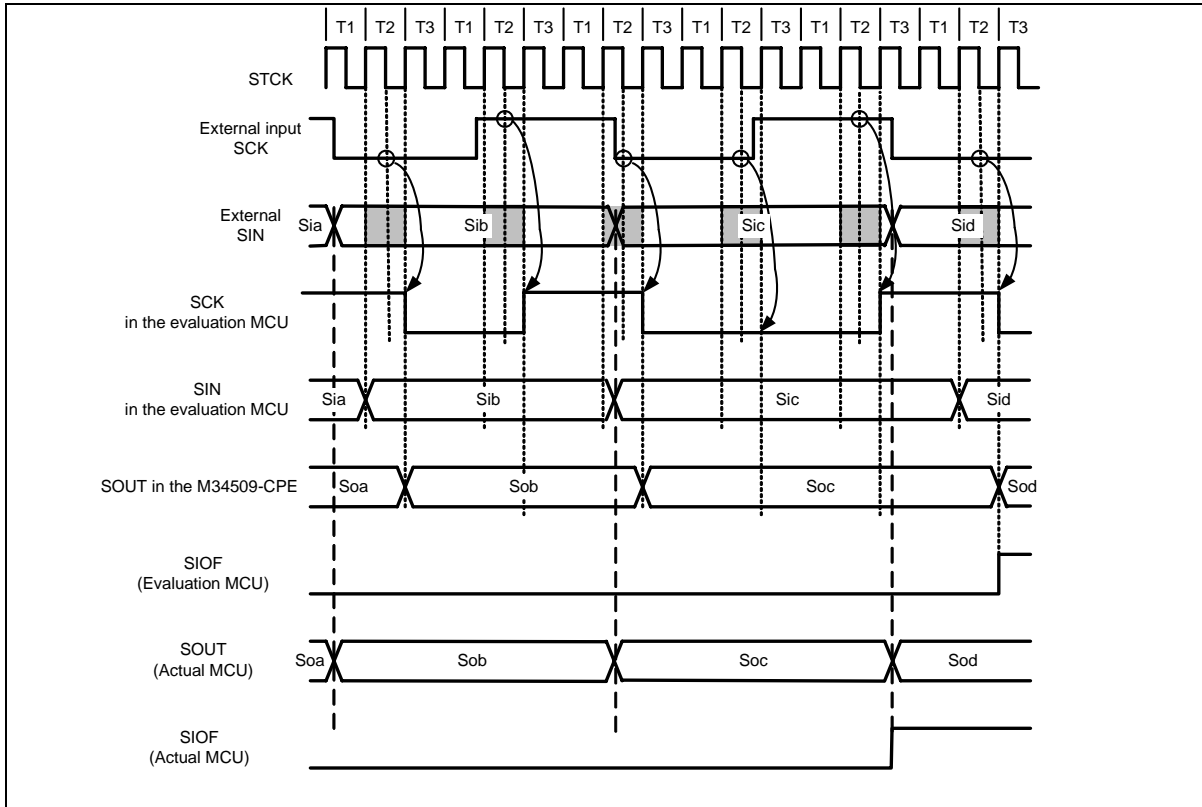

Figure 4.4 Timing of the serial input/output
- In this product, when the external clock (SCK) is used for the serial interface synchronous clock, the operation timing of the SCK pin is different from that of an actual MCU because the SCK pin is the emulation port. Make sure that the set timing of the serial interface transmit/receive completion flag (SIOF) is also different. Figure 4.4 shows that the operation timing when the external clock (SCK) is used for the serial interface synchronous clock.